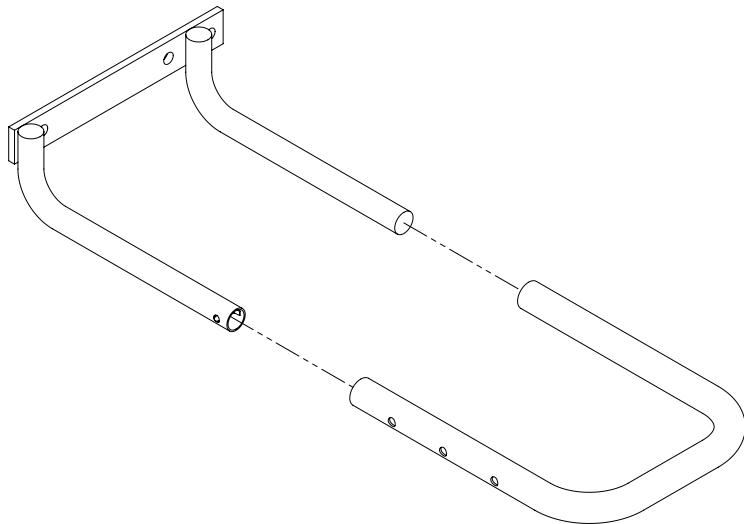

Figure 3 - Removing wheel track positioning tube.
3. Press in the positioning pin and remove the slidable positioning tube from the wheel bracket (see figure 3).